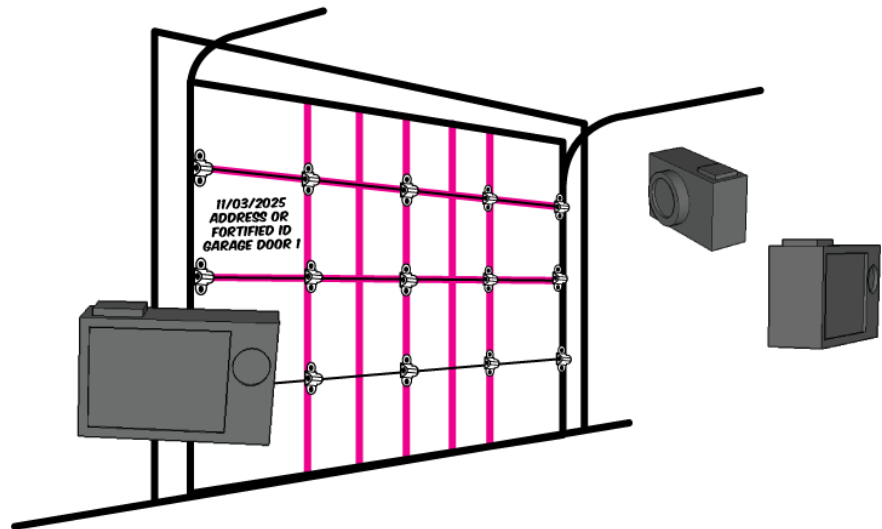

Figure 0-3. Minimum photograph requirement and locations. Labeling of garage door to identify project and photo location.
- Pictures must have the following clearly visible: Date, Address or FORTIFIED ID, Door ID (e.g., Garage Door 1, Garage Door 2, etc.). See Figure 0-3.